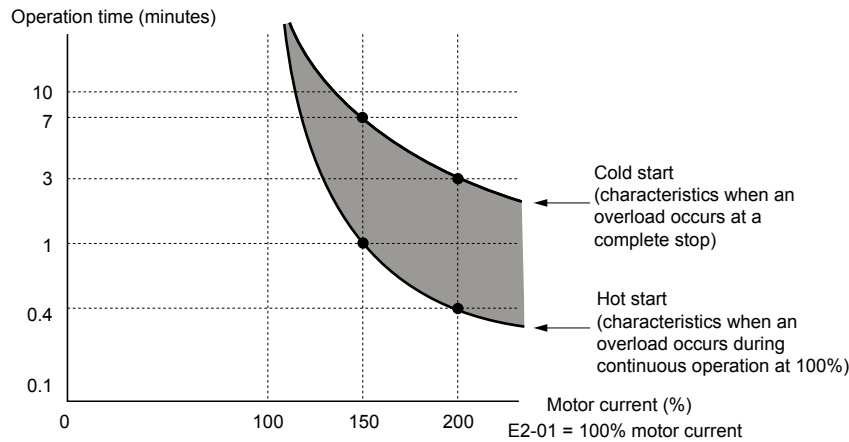

Figure i.69 Protection Operation Time for General Purpose Motors at the Rated Output Frequency
*Figure i.69* illustrates an example of the electrothermal protection operation time using a general-purpose motor operating at the value of E1-06, Motor Base Speed, with L1-02 set to one minute.